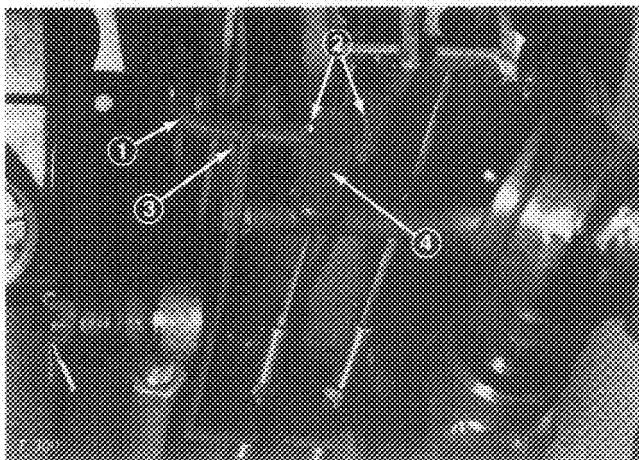

Figure 2
2. Install cotter pin (3/32 x 1/2 in. - 2.4 x 13 mm) through hole at top of parking brake rod. Install another cotter pin (3/32 x 1/2 in. - 2.4 x 13 mm) through inside hole at L-shaped end of brake rod (Fig. 2). Slide top of rod up the steering tower and bottom of rod between cutout in brake mount and through hole in parking brake latch (Fig. 2). Install remaining cotter pin through end of rod.